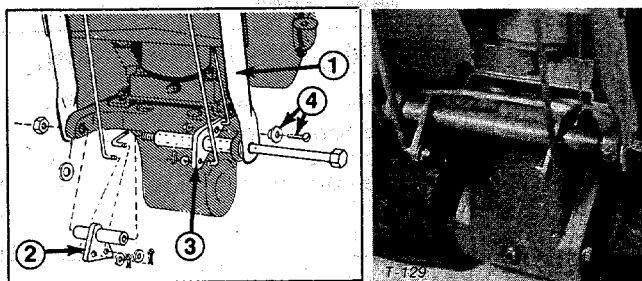

Figure 3
1. Remove handle mounting fasteners from the main frame (Fig. 3), mount handle, slide mounting screw through handle, frame, bellcranks and other components and secure with nut (Fig. 3).
3. Secure throttle and clutch rods with flat washers and cotter pins and throttle wire with retainer screw (Fig. 3).